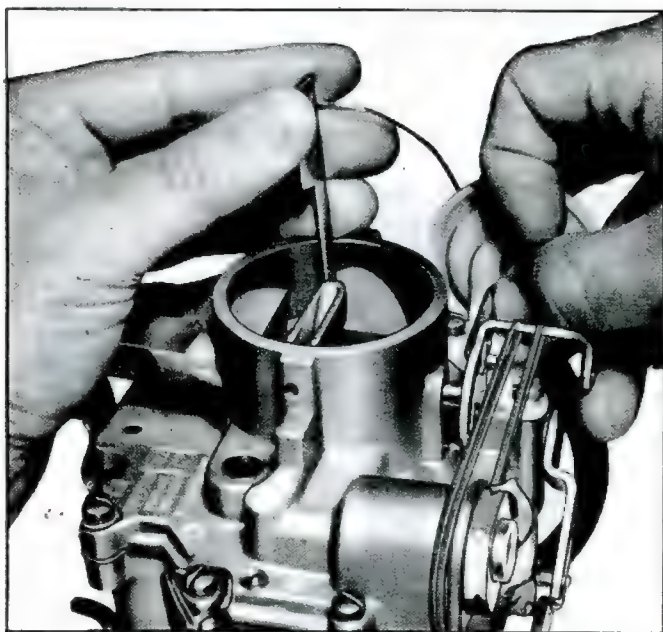

Fig. 14—Vacuum Diaphragm Adjustment
- Measure clearance between lower edge of choke valve and wall of bowl cover. Clearance should be $.180$ "-. $.195$ " (fig. 14).